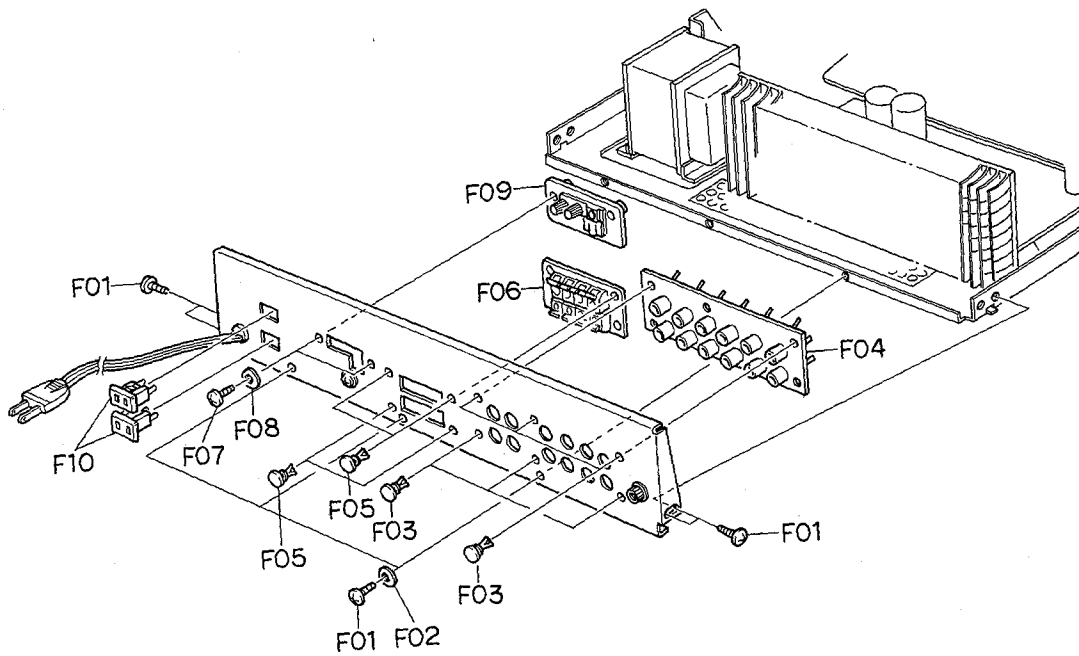

Fig. 3.5
Refer to Fig. 3.5. Remove Top Cover referring to item 3.1. Remove F01 and F02, then Rear Panel Ass'y.
Refer to Fig. 3.5.